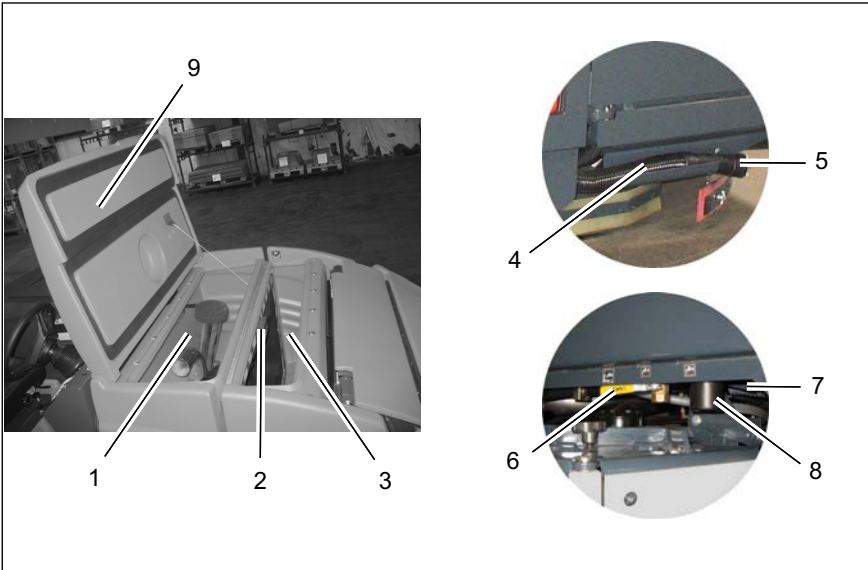

Fig.21
Fill the clear water tank (Fig. 21/1) as required or upon lighting of the pilot lamp at the latest. Park vehicle on level ground and engage parking brake.
Open flap (Fig. 21/9) and fill clear water tank up to maximum marking (Fig. 21/2).
Park vehicle such that the drain valve (Fig. 21/6) is located above discharge point. Turn drain valve by 90° to open.
Clean clear water filter (Fig. 21/8) at daily intervals and check for damages. Change clear water filter if required. Cleaning and changing the clear water filter is possible even with filled clear water tank.
1. Turn stop valve (Fig. 21/7) by 90° to close.
Empty the soiled water tank (Fig. 21/1) as required or upon lighting of the pilot lamp at the latest. Park vehicle on level ground and engage parking brake.
3. Take drain hose (Fig. 21/4) from holder and kink flexible hose end to block water flow. Then remove drain plug (Fig. 21/5). The flexible hose end allows dosage of drain flow.
Clean soiled water tank (Fig. 21/1) at daily intervals.
3. Take drain hose (Fig. 21/4) from holder and place on appropriate point on the floor for draining.
4. Then remove drain plug (Fig. 21/5).